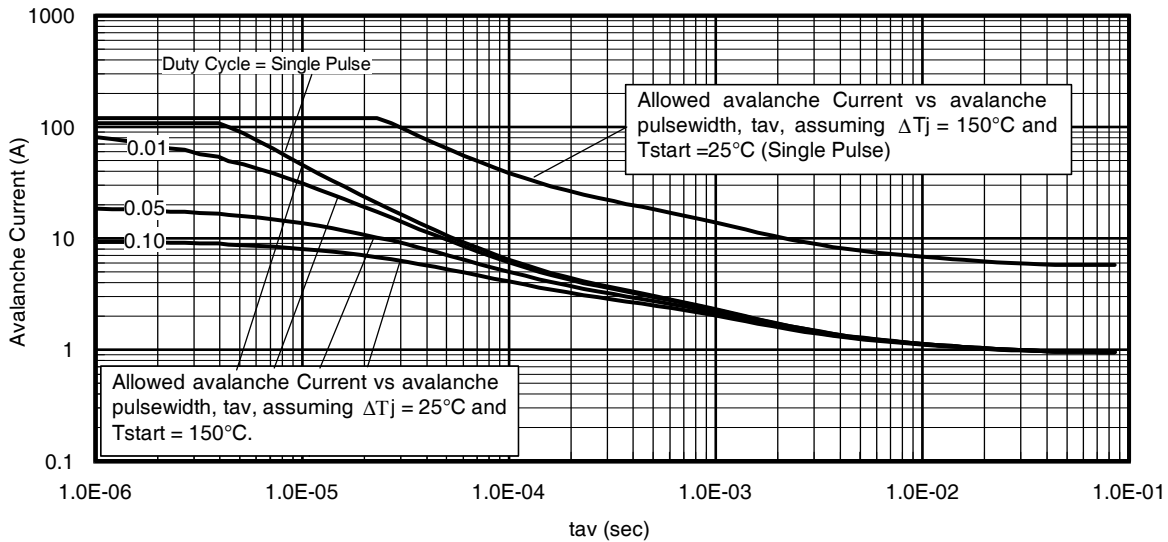

Fig 14. Typical Avalanche Current vs. Pulsewidth
Notes on Repetitive Avalanche Curves, Figures 14, 15:
7.  $\Delta T$  = Allowable rise in junction temperature, not to exceed  $T_{jmax}$  (assumed as  $25^{\circ}C$  in Figure 14, 15).